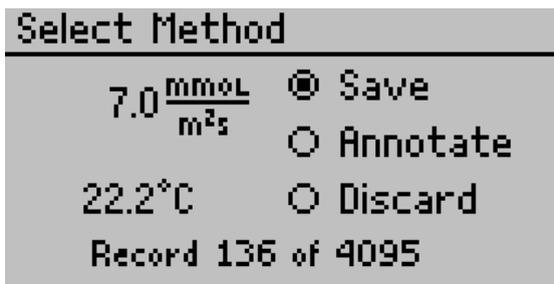

Figure 14 Choose to save, annotate, or discard data
1. In Auto mode, the Select Method screen appears at the completion of the measurement (Figure 14).